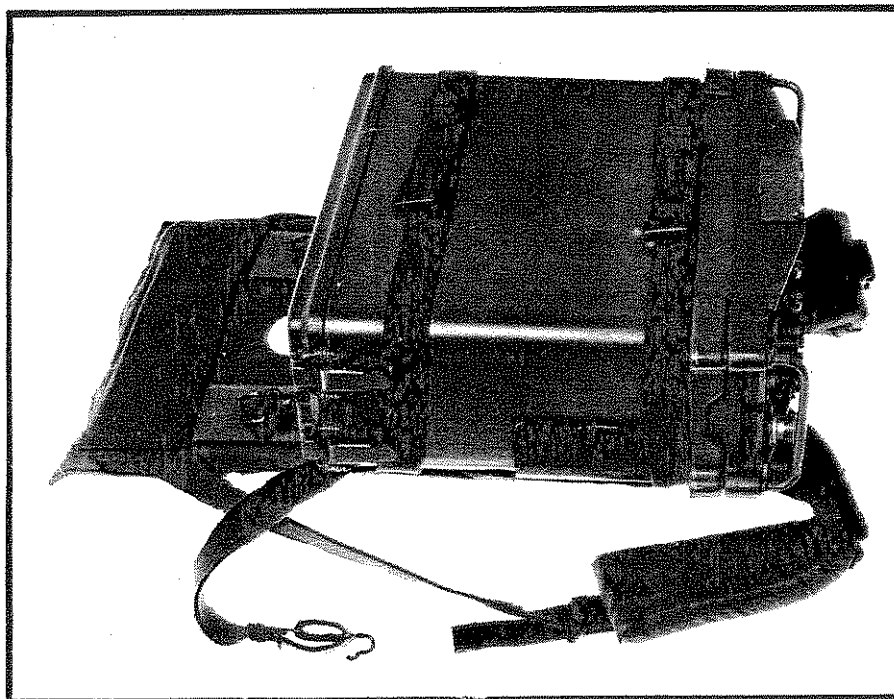

FIG 13
24. Harness Assembly, ST-F1. (Fig 13). This assembly (together with the two Bags Accessory) is designed for the carriage of all components of the equipment used in the manpack role. The transceiver is positioned in, and secured to the assembly by means of metal clamps and webbing retaining straps provided on the assembly.